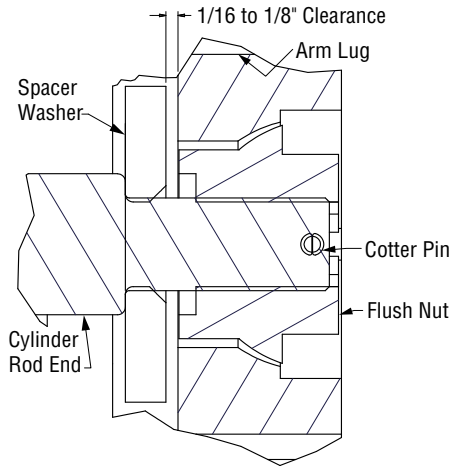

Figure 4-3, Arm Lug
3. Apply a thin coat of bearing grease to the spherical portion of the nut and concave section of the arm lug. Screw on the flush nut until it stops. Back off the flush nut while lining up the cotter pin hole in the rod with the slot in the flush nut. Clearance between the spacer washer and the arm lug should be $1/16$ to $1/8$ of an inch or less. Do not tighten the flush nut tight to eliminate all clearance between spacer washer and arm lug. (Figure 4-3)